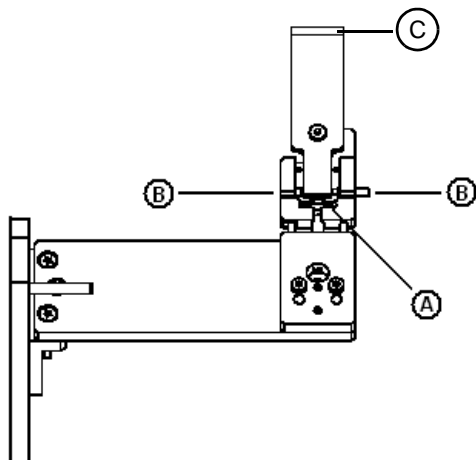

Figure 4.27 - Beam stop (side view)
1. Attach fluorescent paper to the upper edge of the beam stop knife edge (item C in Figure 4.27).
2. Raise the beam stop using the thumb wheel (item A in Figure 4.27) until the edge is above 0° 2-theta.
6. Adjust the tilt, item B in Figure 4.27, of the knife edge until the beam appears homogeneous and has uniform intensity. The tilt adjustment is comprised of opposing set-screws. When making an adjustment, also loosen the opposing screw.